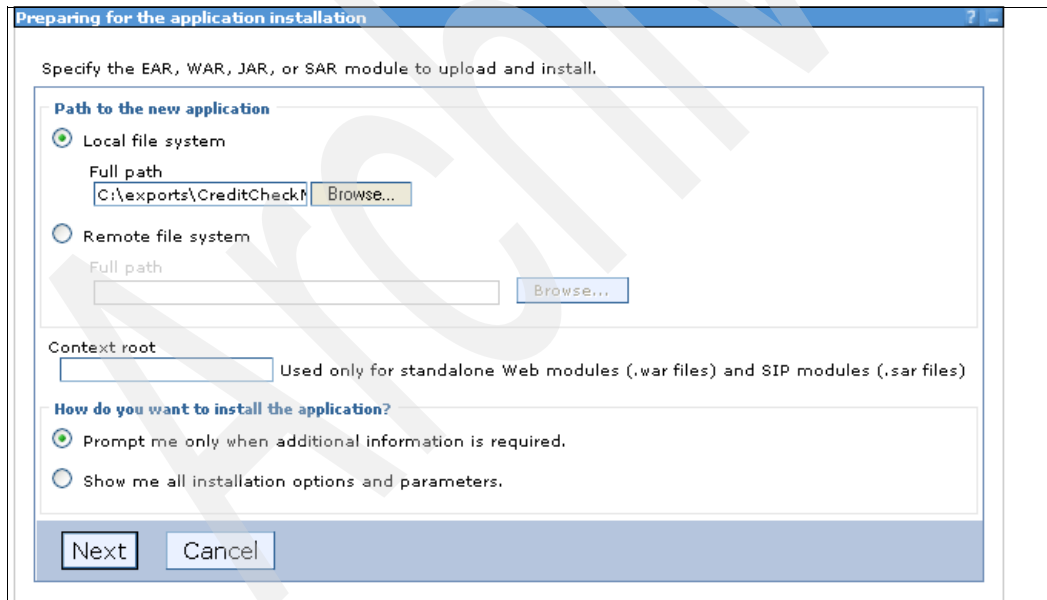

Figure 10-82 Preparing for the application installation panel
2. In the Preparing for the application installation panel (Figure 10-82), select **Local File system** as the source, and for Full path, click **Browse**. Navigate to and select the **CreditCheckMonitorModelApplication.ear** file. Click **Next**.